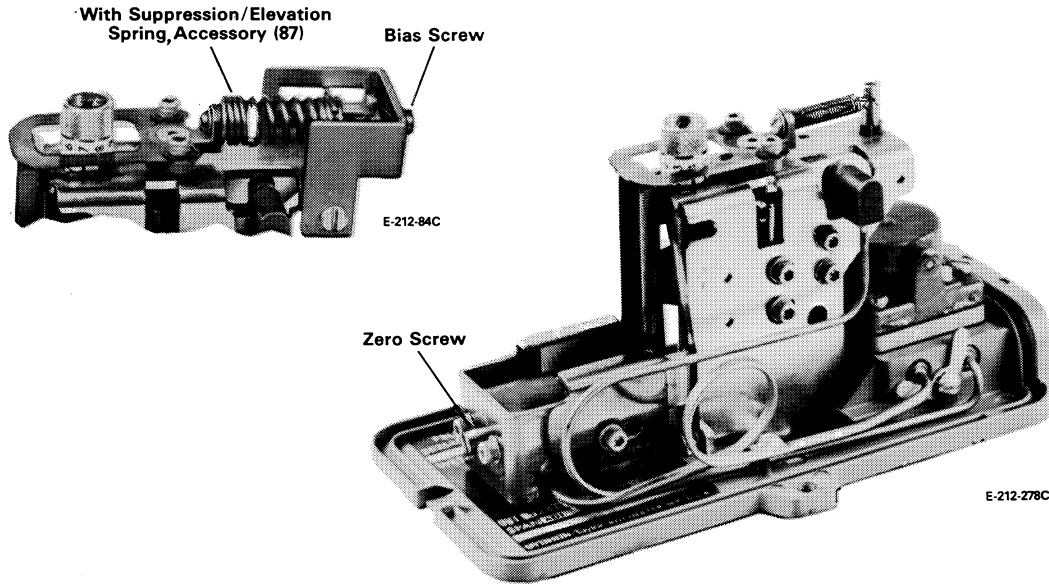

Figure 10. Zero Adjustment
5. After venting, output should be 3 psig (20 kPa). If it is not, turn **ZERO** adjustment, Figure 10, to
If it is not, turn **ZERO** adjustment, Figure 10, to obtain required output. Clockwise rotation increases output.
- If output does not agree with that obtained in Step 2, turn bias screw, Figure 10, until required output is obtained. If necessary, trim zero by adjusting zero screw. Clockwise adjustment of either screw increases output.